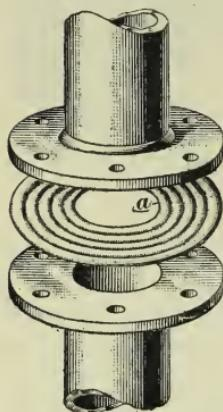

FIG. 43
**57.** Gaskets or packing rings for steam-pipe flanges and for flange unions are made of various materials. In low-pressure heating, a heavy brown-paper gasket soaked in white lead and boiled linseed oil is sometimes used if the flanges are faced smooth and true. Such a packing is not used by the best engineers, as the different makes of asbestos and composition packings are better materials for the purpose. Where a first-class joint is required, the corrugated-copper gasket shown at *a*, Fig. 43, is reliable, as it can be made up tight without fear of compressing the material into the pipe. It will successfully resist a very high temperature.